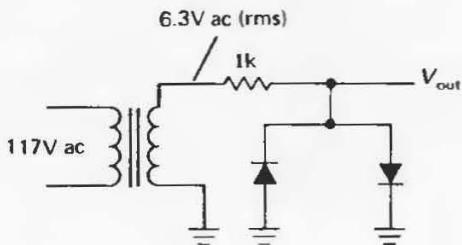

Figure 1.110
(7) Sketch the output for the circuit shown in Figure 1.110.
(8) Design an oscilloscope " $\times 10$  probe"